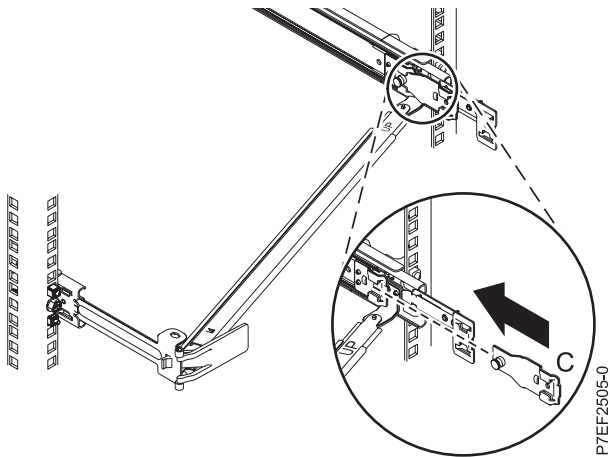

Figure 14. Installing the mounting bracket into the slide rail
6. Attach the mounting bracket (C) to the slot on the inside of the right slide by sliding the mounting bracket (C) into the slide rail until the spring-loaded pin snaps into place. For details, see Figure 14 on page 10.